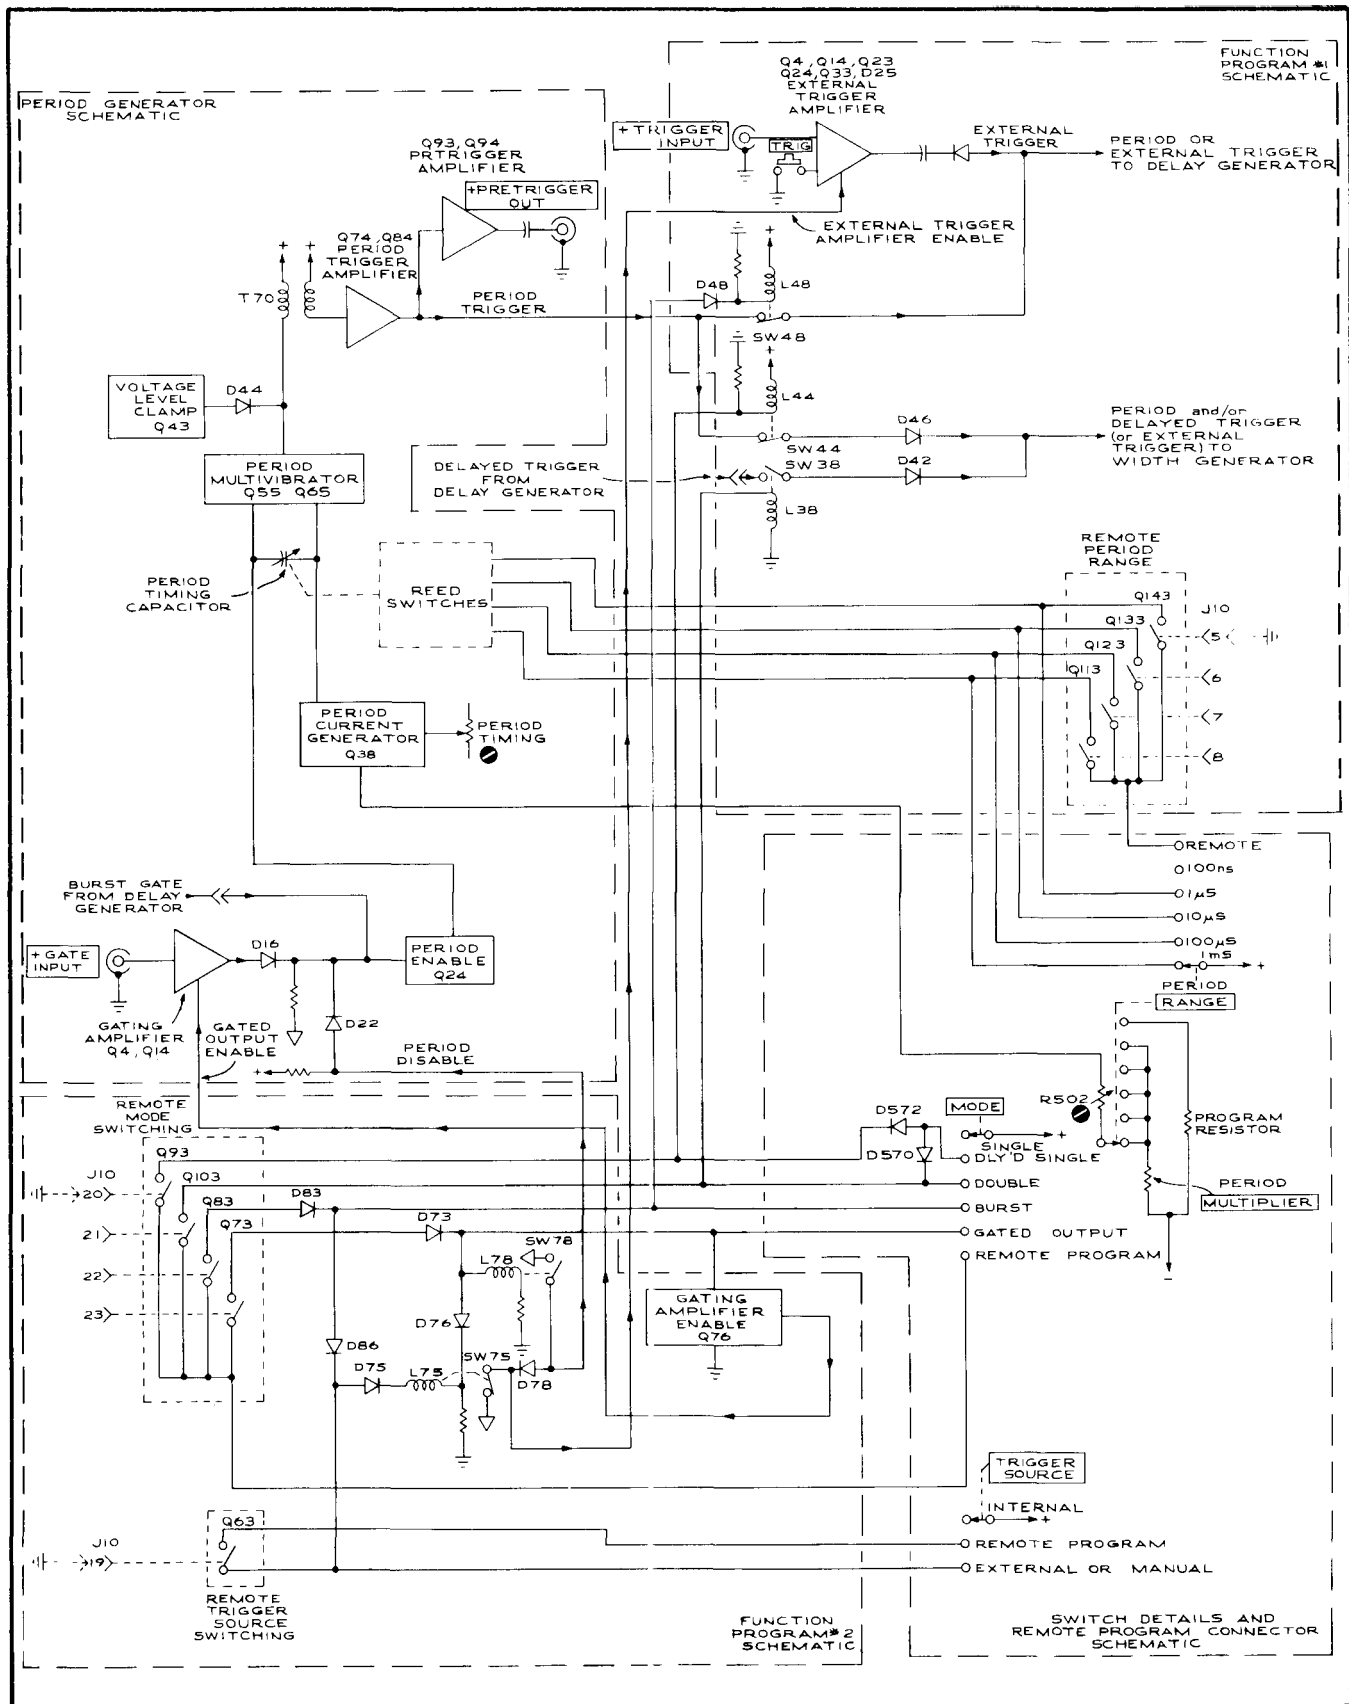

Fig. 4-3. Block diagram of the period generator, external trigger amplifier, and mode and trigger switching circuitry.
**Period Generator.** The period generator consists of multivibrator Q55 and Q65 (see Fig. 4-3), current source Q38, enabling circuit Q24, clamping circuit Q43, timing capacitors, and trigger amplifier stage Q74, Q84, Q93, and Q94. Transistors Q55 and Q65 (see the Period Generator schematic) form an astable, unsymmetrical multivibrator. It is unsymmetrical in the sense that Q65 is turned on and Q55 is turned off the majority of the time. The cycle of the multivibrator, and thus the period of the output pulse, is dependent on the capacitance of the timing capacitor switched into the circuit by the PERIOD RANGE switch and the amount of current conducted by Q38.
The external trigger amplifier circuit consists of input pulse amplifier Q4 and Q14 (see the Function Program #1 schematic), tunnel diode D25, output amplifier Q24 and output complementary emitter follower circuit Q23 and Q33. When the TRIGGER SOURCE switch is set to MANUAL OR EXTERNAL, the period generator is disabled and the emitter of Q24 is connected to signal ground (see SW75 in Fig. 4-3) thereby enabling the external trigger amplifier. Quiescently, both Q4 and Q14 are off, D8 is reversed biased and D14 is conducting, setting the voltage at its anode at about +7.6 V. A trigger pulse having an amplitude between +2 V and +20V applied to the +TRIGGER INPUT connector turns on Q4, which begins conducting current through D8, setting the voltage at the collector of Q4 to about +6.4 V. Current through Q4 also is conducted by R8 which forward biases Q14, turning it on and turning off D14. When Q14 begins conducting, the current through D25 increases, causing it to switch to its high state and present a pulse to the base of Q24. The tunnel diode may also be triggered by the manual trigger button, SW10 (see Switch Details and Remote Program Connector schematic), which when pushed, connects the +25 V supply to the anode of D25 through R15 and R16. This trigger is also presented to the base of Q24. Inductor L20 momentarily blocks the external or manual trigger from shunting D25, thus allowing the total pulse voltage to trigger the tunnel diode.
chassis ground to signal ground and to produce a gate of large enough amplitude to enable the period generator. When the MODE switch is set to GATED OUTPUT, the emitter of Q4 is connected to chassis ground through Q76 (see Fig. 4-3), thus enabling the input gate amplifier. When a positive-going gate pulse having an amplitude between +2 V and +20 volts is applied to the +GATE IN connector, Q4 and Q14 (see the Period Generator schematic) are turned on and go into saturation. As Q4 and Q14 turn on, a 10-volt positive-going gate pulse is generated, forward biasing D16 and enabling the period generator. The period generator then remains enabled until the input gate falls, turning off Q4 and Q14.
When the MODE switch is in the SINGLE position and the TRIGGER SOURCE switch is set to INTERNAL, SW55 (see Delay Generator circuit diagram), SW75 (see Fig. 4-3), and SW78 are open, enabling the period generator. Also in this case, SW38 and SW48 are open and SW44 is closed, allowing the negative-going period triggers to be transmitted directly to the width generator and the positive-going period triggers to be transmitted to the +PRETRIGGER OUT connector. (Positive-going period triggers always appear at the +PRETRIGGER OUT connector when the period generator is operating.) When the MODE switch is reset to DLY'D SINGLE, SW44 is opened and SW48 is closed, allowing period triggers to be applied to the delay generator but not to the width generator. Also SW38 is closed, allowing the negative-going delay triggers to be applied to the width generator. Whenever a delayed trigger is generated, a positive-going delay trigger appears at the +DELAYED TRIGGER OUT connector. When the mode of operation is switched to DOUBLE, period triggers are applied to both the delay and width generators (SW44 and SW48 are closed) and the width generator receives triggers from both the period and delay generators (SW38 is closed). When the TRIGGER SOURCE switch is set to MANUAL OR EXTERNAL for the three previous modes of operation, SW75 is closed which disables the period generator and enables the external trigger amplifier. Negative-going period triggers, in this case, originate from the external trigger amplifier output. These triggers are applied to the delay and width generators according to the mode of operation, as if they had originated from the period generator. These triggers are also applied to the base of Q94 through SW48 in the single and double pulse modes to produce positive-going triggers at the +PRETRIGGER OUT connector.